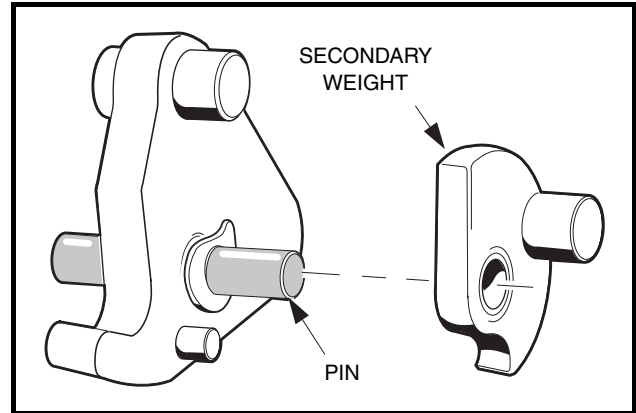

Figure 17-13 Install Secondary Weight
9. Install the secondary weights onto the mounting pins with the weight pins on the secondary weights pointing away from the primary weights. The wave washers should be between the primary and secondary weights (**Figure 17-13, Page 17-9**).